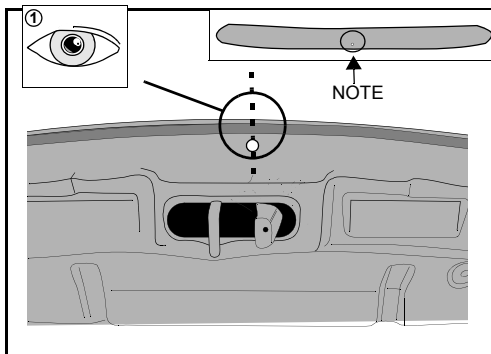

Figure 6. Locate the center clip position.
6. Note the center hole in Hood Protector as shown in Figure 6. Raise and support the hood so it is slightly open.